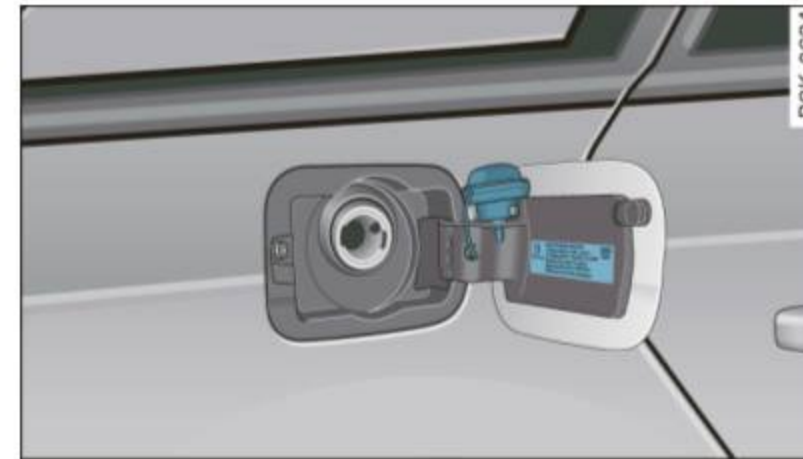

Fig. 208 Fuel filler flap with attached fuel cap
- Unscrew fuel cap counter-clockwise and hang it on the fuel filler flap ⇒ fig. 208.